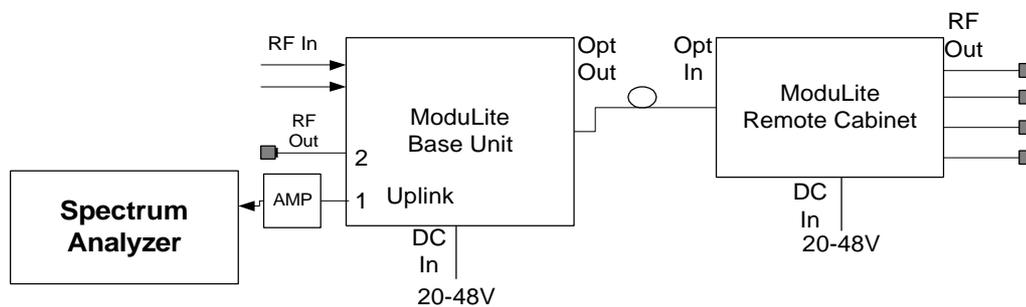

Figure 12: Uplink Network Test
1. Connect the Spectrum Analyzer to the designated Modular Base Unit uplink port. Connect 50ohm terminators to the MRC ports, and to all Modular Base Unit uplink ports except for the tested port (see Figure 12).